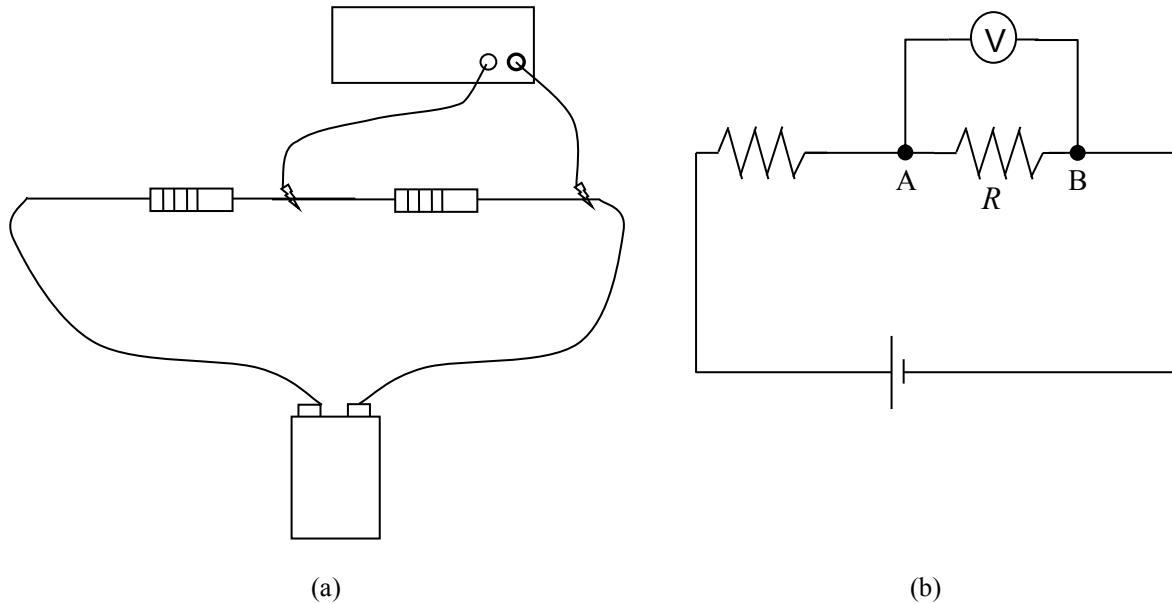

Figure 2. Measuring the voltage, V , across a resistor R with a voltmeter (symbol V). (a) Representative drawing; (b) the same in circuit symbols.
A voltmeter measures the difference in electrical potential between two different positions in an electrical circuit. Therefore, **to measure the voltage touch two different positions in the circuit with two probes**, as shown in Figure 2. You measure the voltage *across* an electric component or system of components, i.e., the meter is connected in *parallel* with the component.
3. Once the circuit is connected (including both resistors), set the multimeter on volts and measure the voltage across R_1 . (See Figure 2.) Record this value in Table 2. (Don't forget the units!)